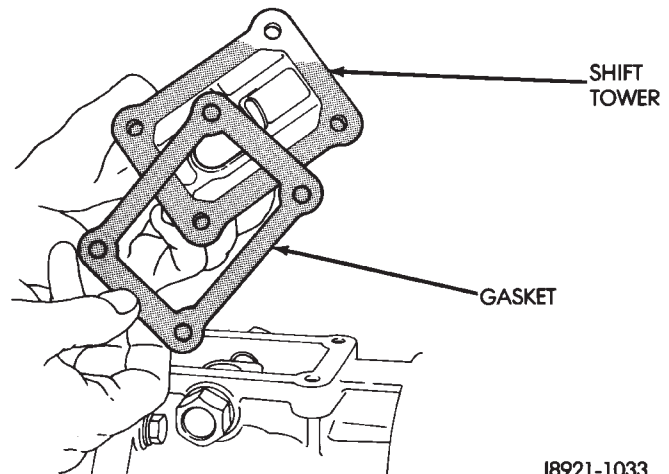

Fig. 3 Shift Tower Gasket Removal/Installation
(4) Remove gasket from shift tower (Fig. 3).